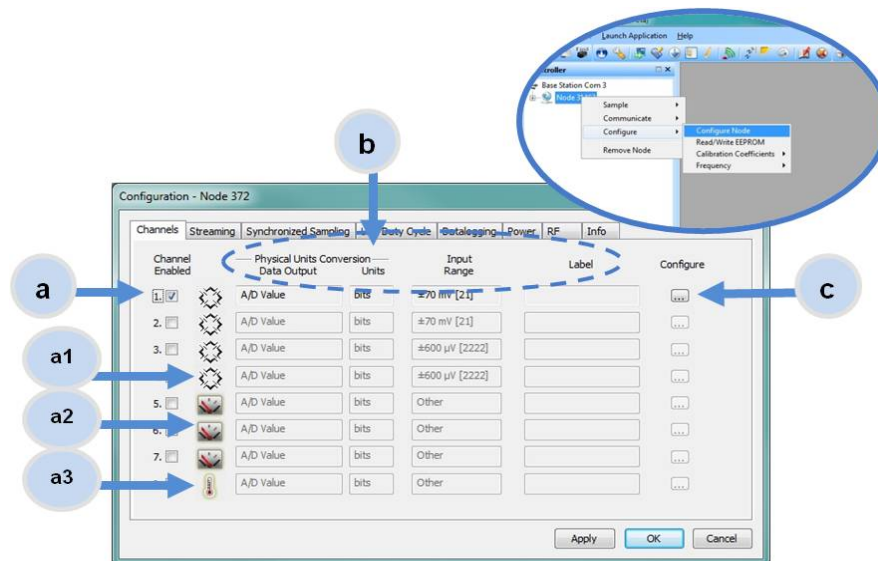

Figure 8 - Node Channels Menu
- a. **Channel Enabled:** indicates the sensor channel number. The check box is used to enable the channel and select it for sampling. The icon next to the check box describes the channel type inherent to the node being used. In the following example (*Figure 8 - Node Channels Menu*): a1) analog differential channel icon, a2) analog single ended channel icon, and a3) temperature channel icon.
2. To enter the channel configuration menu, select the Configure button as shown in Figure 8 - Node Channels Menu.